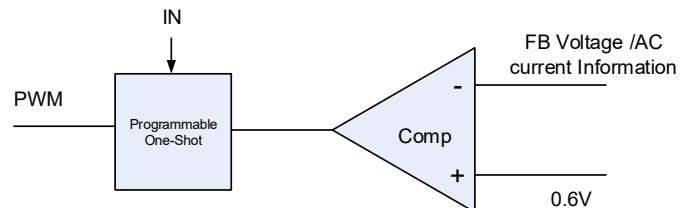

Figure 2. Simplified Control Schematic of AOZ22555QI
The simplified control schematic is shown in Figure. 2. The high-side switch on-time is determined solely by a one-shot whose pulse width can be programmed by one external resistor and is inversely proportional to input voltage (IN). The one-shot is triggered when the internal 0.6V is higher than the combined information of FB voltage and the AC current information of inductor, which is processed and obtained through the sensed lower-side MOSFET current once it turns-on. The added AC current information can help the stability of constant-on time control even with pure ceramic output capacitors, which have very low ESR. The AC current information has no DC offset, which does not cause offset with output load change, which is fundamentally different from other V^2 constant-on time control schemes.